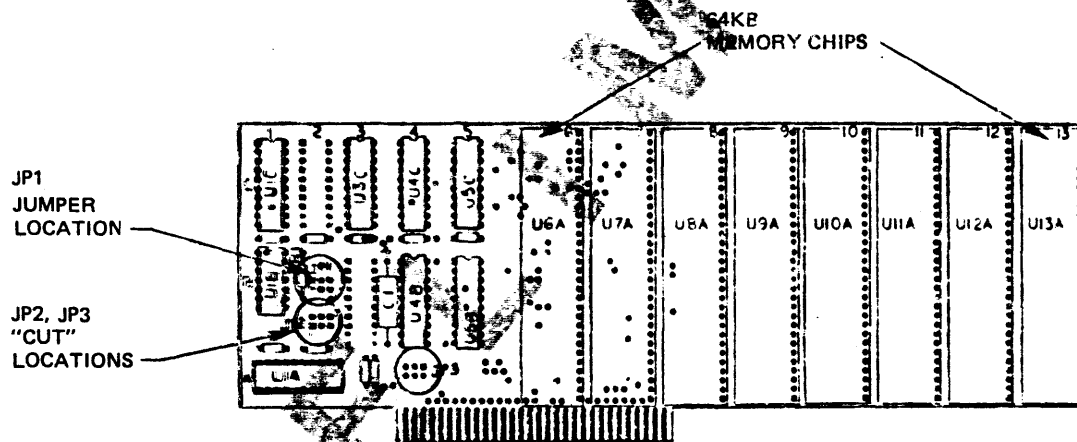
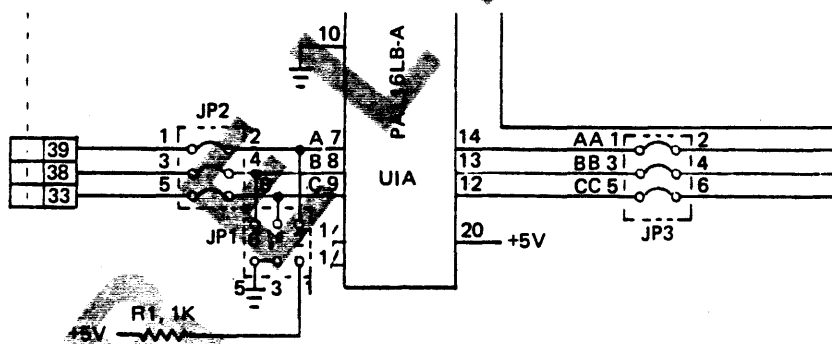

Figure 6-3. 1/2MB Memory Board
Figure 6-4. 512KB Board, Cuts/Jumpers
Figure 6-3 is a layout of this memory board showing the maximum (eight) memory chips, each containing 64KB. The dash number for each board that is available for ZEBRA 1700/1750 and for the earlier ZEBRA 700/750 models are summarized in Table 6-2. This table also identifies the required status of cuts for JP2 and JP3, and the required jumpers for JP1. Figure 6-4 is a logic diagram showing cut and jumper positions.
*"Cuts" means cutting the jumpers listed and shown schematically in Figure 6-4.